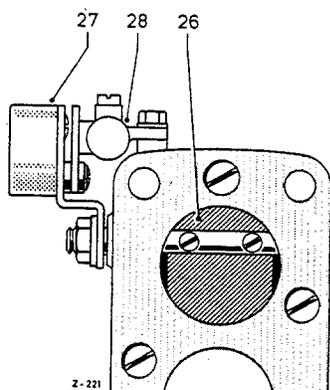

Fig. M 31 S/02
Both stages of the carburetor are combined in one housing (Fig. M 31 S/01). Throttle valve (23) of Stage 1 is located as usual in the lower part of the carburetor, set an angle of 8° . Stage 2, however, has two throttle valves, set an angle of 17° , the one (25) in the center section of the carburetor and the other (26) in the lower section. Throttle valves (23) and (25) of Stages 1 and 2 are coupled together by a linkage. The second throttle valve (26) of Stage 2 is not coupled to the other two. It is operated automatically by the pressure flow. The off-set shaft of the throttle valve is fitted with a lever, bearing a weight (27) (Fig. M 31 S/02).
This weight keeps the throttle valve closed under normal conditions. It is only when a certain pressure, coupled with decreased pressure in the body of Stage 2, develops that the effect of the weight is overcome and this throttle valve, the so-called vacuum valve, opens. In order to prevent the vacuum valve from being forcibly opened by the centrifugal effect on narrow left-hand bends, the movement of the vacuum valve is neutralized via the valve lever by an oil shock-absorber (28) (see Fig. M 31 S/02).